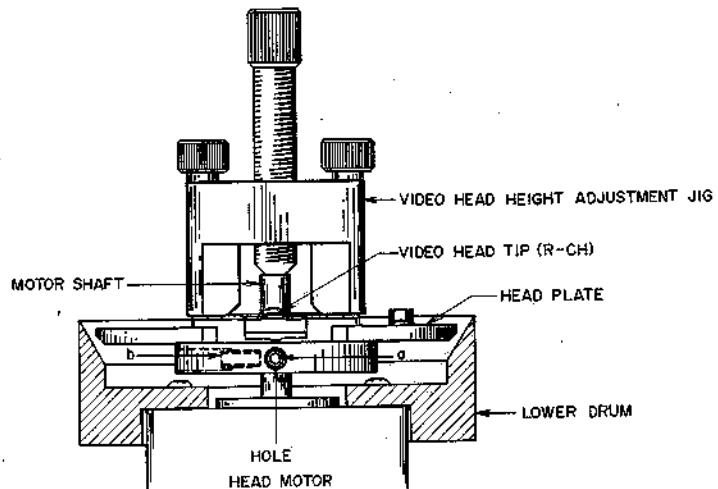

Fig. 4-18
- Mount the head plate on the motor shaft as shown in Fig. 4-18.
- Tighten the 1.5 mm hexagon screw (a) in Fig. 4-18.